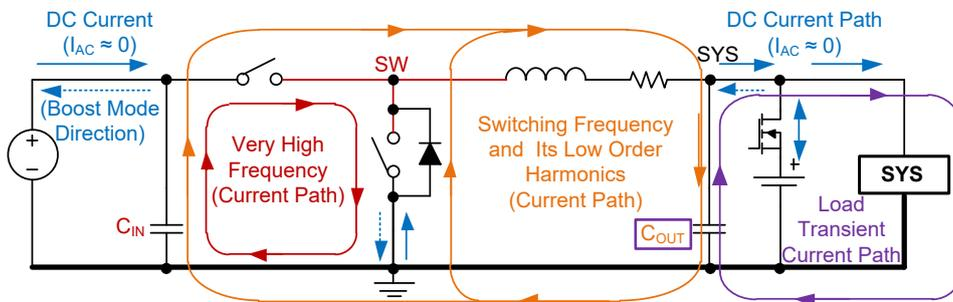

Figure 20. The Paths and Loops Carrying High Frequency, DC Currents and Very High Frequency (for Layout Design Consideration)
The switching node (SW) creates very high frequency noises, which are several times higher than f_{sw} (1.5MHz) due to sharp rise and fall of the voltage and current in the switches. To reduce the ringing issues and noise generation, it is important to design a proper layout for minimizing the current path impedance and loop area. A graphical guideline for the current loops and their frequency content is provided in Figure 20. The following considerations can help making a better layout.